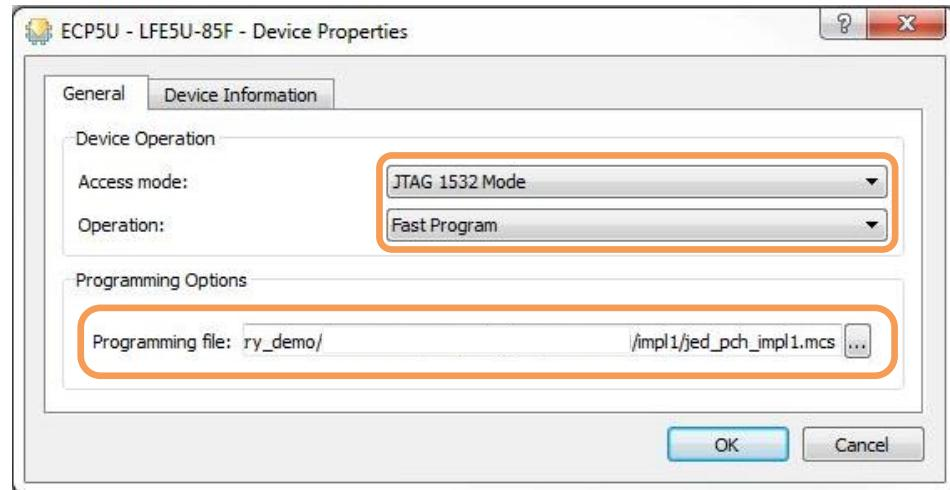
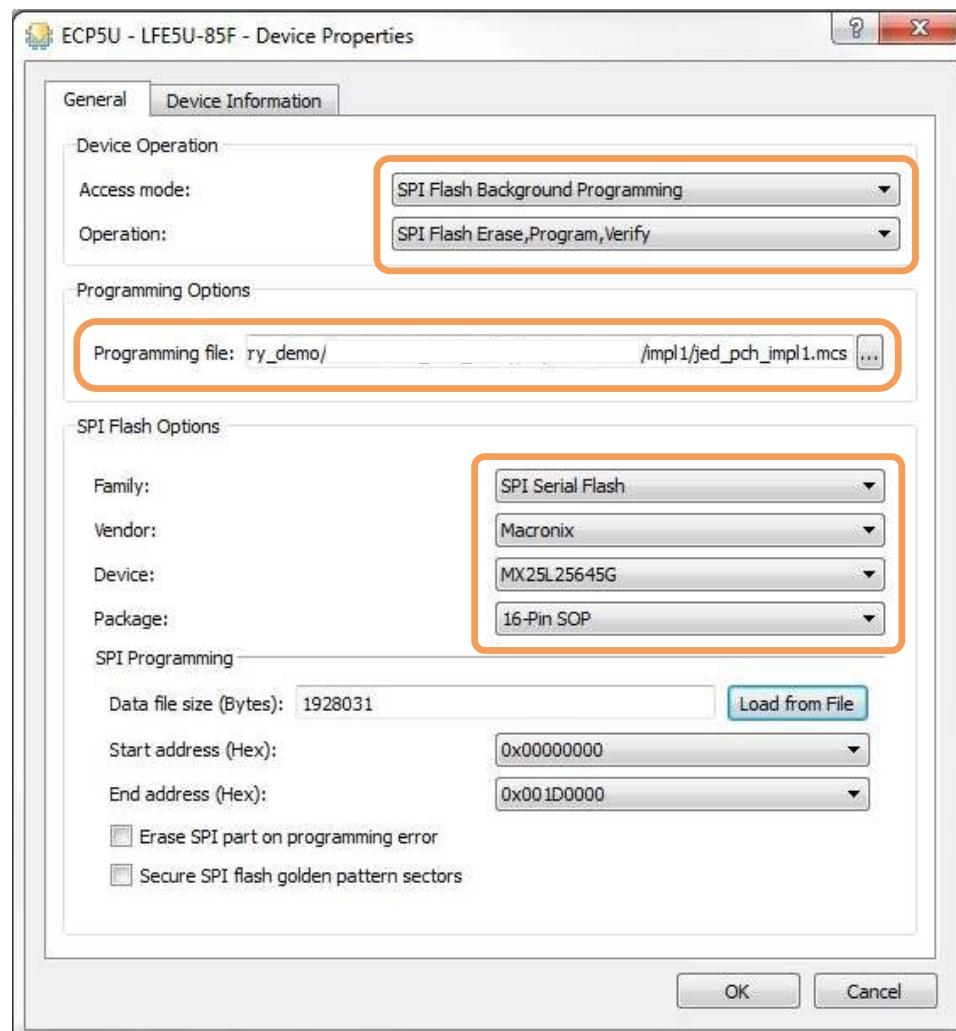

Figure 4.16. Internal RAM Mode Operation
Figure 4.17. External SPI Flash Mode Operation
The ECP5 device has two programming modes (Figure 4.16 and Figure 4.17) for the Lattice Sentry Demo Board for MachXO3D.
To select external SPI Flash mode (Figure 4.17):
- Under the **SPI Flash Options**, select the following options as shown in Figure 4.17: